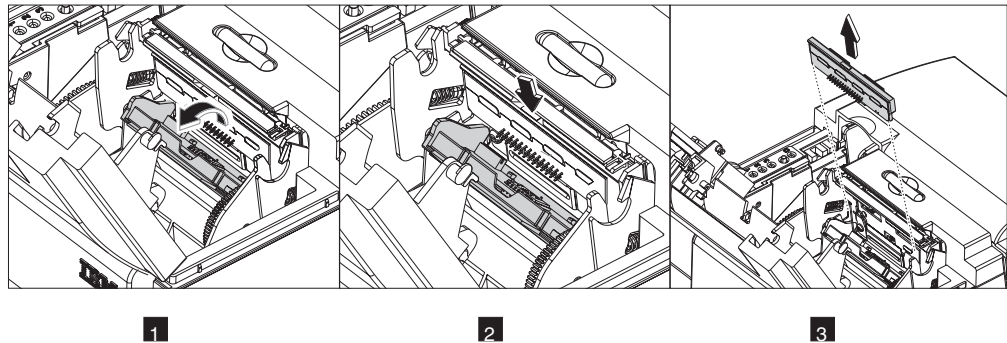

Figure 11. Installing the thermal printhead assembly
2. See **1** in Figure 11. Open the paper-out sensor by grasping the edge and pulling downward.